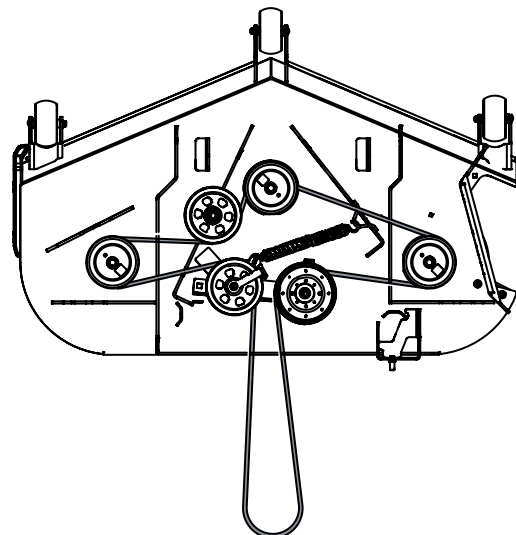

Figure 58
- Route the belt as shown in Figure 58. Tighten and secure the idler arm hardware.